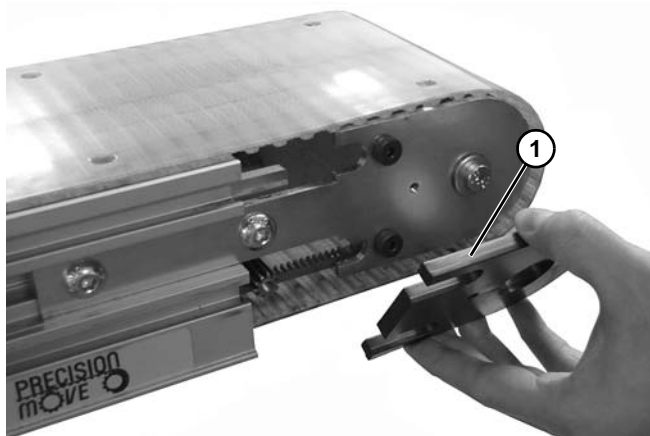

Figure 38
5. Remove bearing housing (Figure 38, item 1).